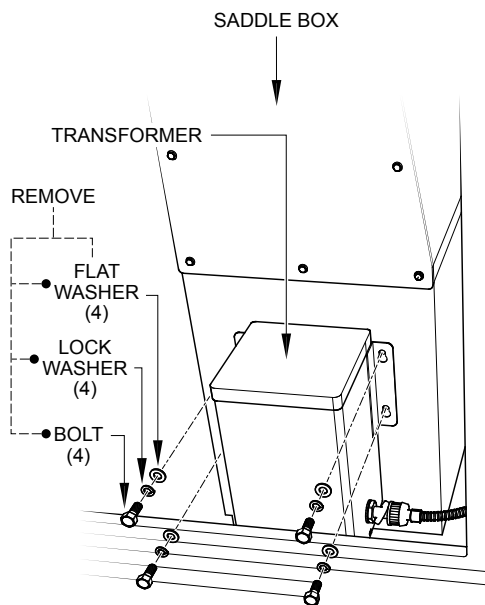

Figure 3. Transformer Removal
2. Remove the existing mounting hardware (Figure 3) that secures the transformer to the saddle box. Discard mounting hardware, they will not be used again.